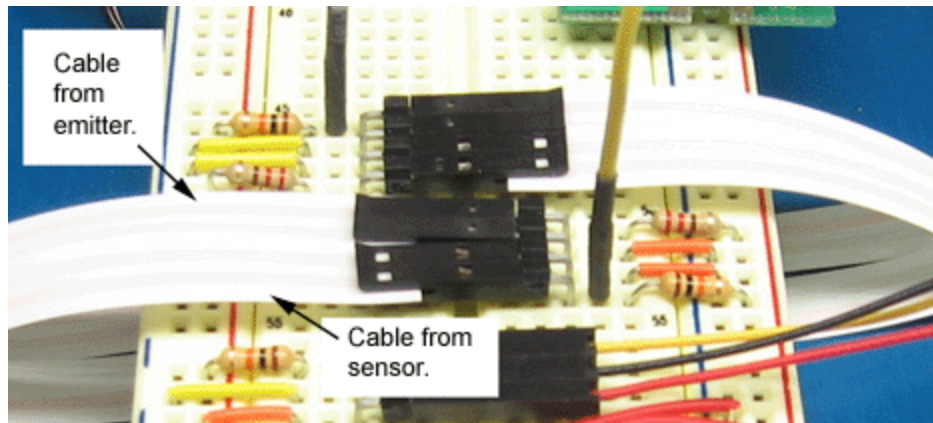

Figure 22. Older style down-facing sensor connections completed.
6. In the space on the breadboard between the left down-facing sensor connection and the front sensor connection, repeat steps 3 and 4 to connect the right down-facing sensor. Instead of yellow jump wires, use short orange jump wires to make your connections to ground. Also, to make it easier to keep your sensors straight, use a flexible yellow jump wire, instead of a white one. When you have finished, your XBoard should look like the one shown in Figure 22.